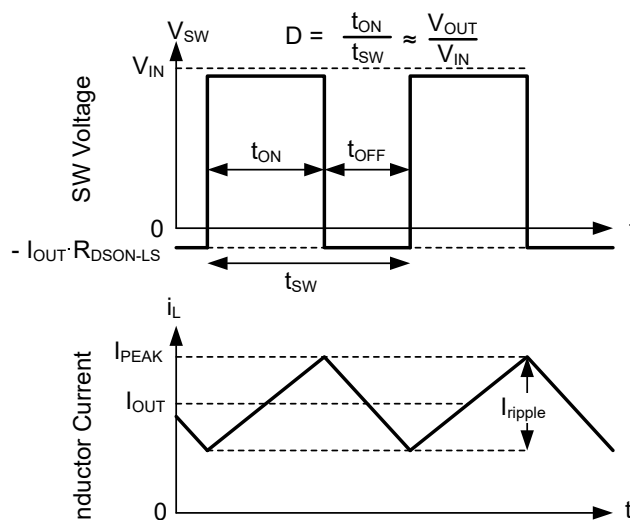

Figure 7-13. SW Voltage and Inductor Current Waveforms in Continuous Conduction Mode (CCM)
The following operating description of the device refers to Section 7.2 and to the waveforms in Figure 7-13. In CCM, the device supplies a regulated output voltage by turning on the internal high-side (HS) and low-side (LS) switches with varying duty cycle (D). During the HS switch on time, the SW pin voltage, V_{SW} , swings up to approximately V_{IN} , and the inductor current, i_L , increases with a linear slope. The HS switch is turned off by the control logic. During the HS switch off time, t_{OFF} , the LS switch is turned on. Inductor current discharges through the LS switch, which forces the V_{SW} to swing below ground by the voltage drop across the LS switch. The converter loop adjusts the duty cycle to maintain a constant output voltage. D is defined by the on time of the HS switch over the switching period: